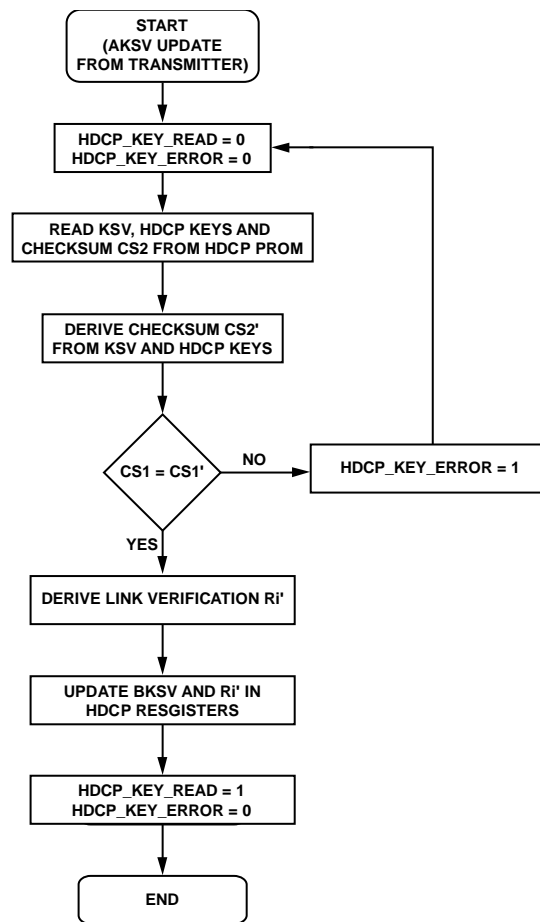

Figure 7. HDCP ROM Access After KSV Update from the Transmitter
- After a KSV update from an HDCP transmitter, the ADV7611 reads the KSV and all keys in order to carry out the link verification response (refer to Figure 7).